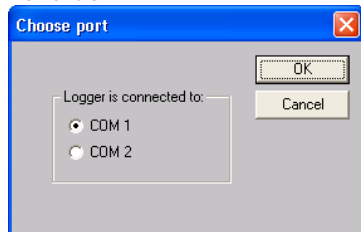

FIGURE 141 Serial port selection dialog boxes
- 6 In the dialog box that opens (Figure 141), select the serial port that will be used to access the DT800 during the upgrade and then click **OK**.